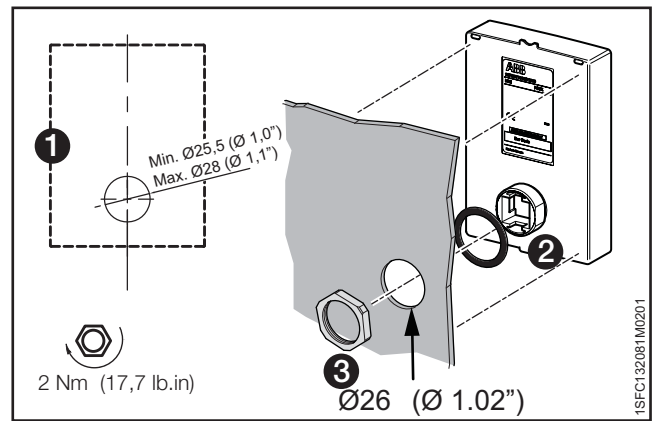

Figure 4.9
1. To remove the movable HMI from the Softstarter, loosen the plastic latch below the movable HMI, see ❶ and ❷ in **Figure 4.9**.
2. Drill a hole where to attach the movable HMI. Maximum dimension of the hole is $\varnothing 26$ ($\varnothing 1.02$ "), see ❶ in **Figure 4.9**. Put the rubber packing around the threaded network connector on the movable HMI, see ❷ in **Figure 4.9**. Push the threaded network connector through the drilled hole. See ❸ in **Figure 4.9**. Fasten the plastic screw-nut on the threaded network connector, with 2 Nm (17.7 lb/in).